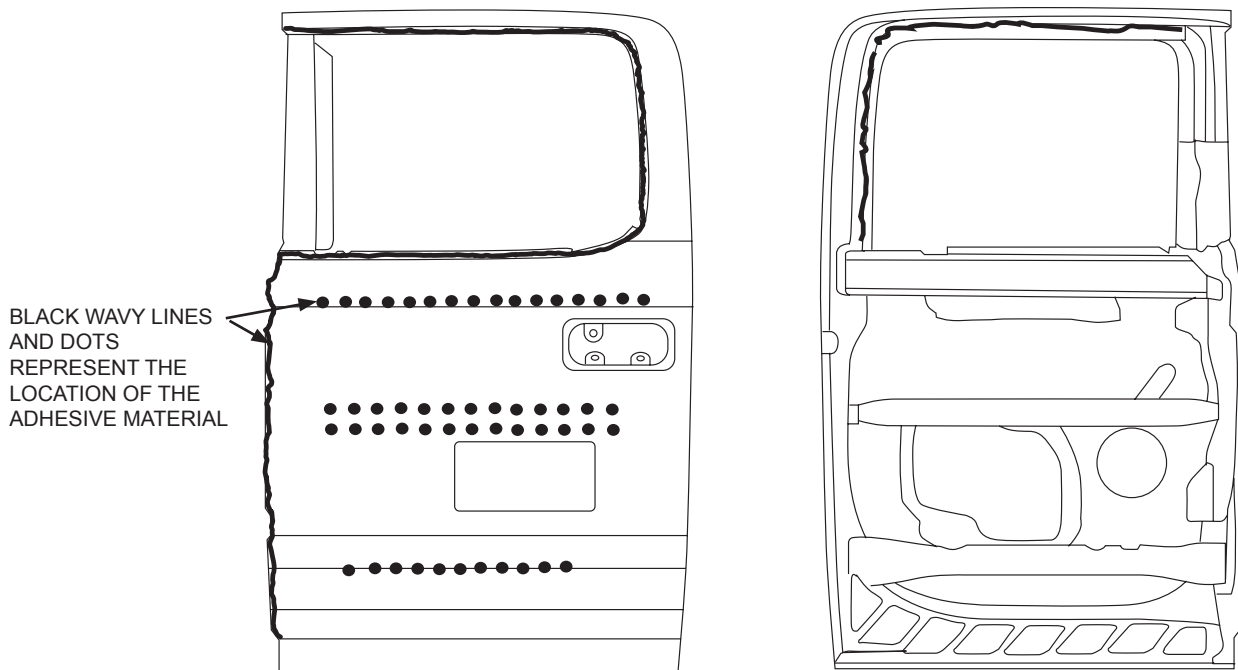

FIGURE 1
2. Replacement Self-Piercing Rivets (SPRs) are the preferred replacement during repair for original SPR locations, where feasible. Hemlocks are the next preferred replacement for original SPRs. (Refer to Figure 1).
7. Insert TOOL 501-078-1 (RH) or TOOL 501-078-2 (LH) in an air impact gun (620 kPa (90 psi) air pressure is required for consistent tool operation). Using the tool, open the hem flange around the perimeter of the panel.
15. Apply metal bonding adhesive to the following areas: service replacement hem flange, flutter beam-to-outer panel, and outer belt reinforcement-to-outer panel. (Refer to figure 1).
21. (Refer to Figure 1) for location for adhesive material.
NOTE: The location of SPR and adhesive shown below are based on the original production drawings and should only be used as a guideline. (Refer to Figure 1).